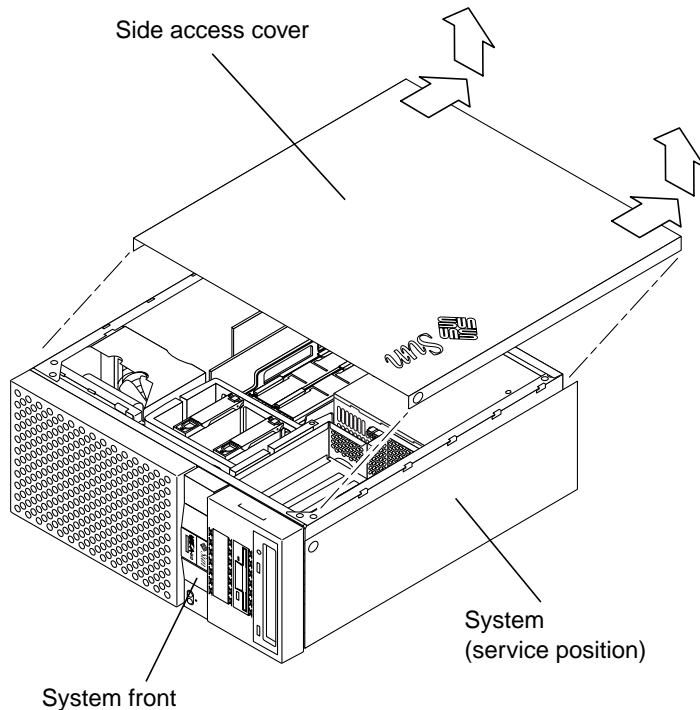

FIGURE 3-3 Removing the Ultra 60 Side Access Cover
2. Remove the side access cover as follows (FIGURE 3-3):